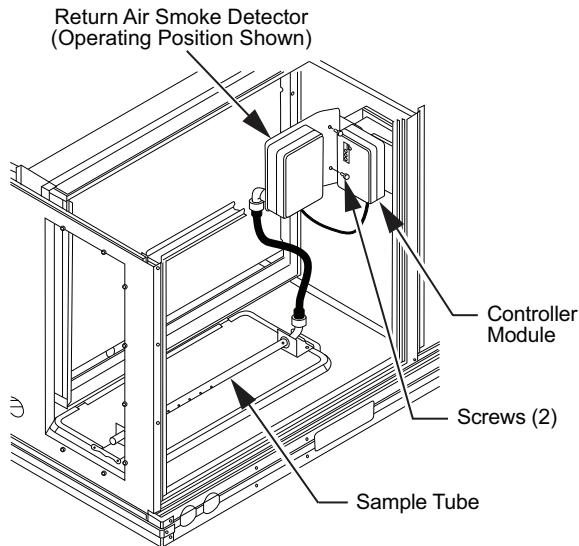

Fig. 47 — Return Air Smoke Detector Operating Position
- Rotate the detector plate so the sensor is facing outwards and the sampling tube connection is on the bottom. See Fig. 47.